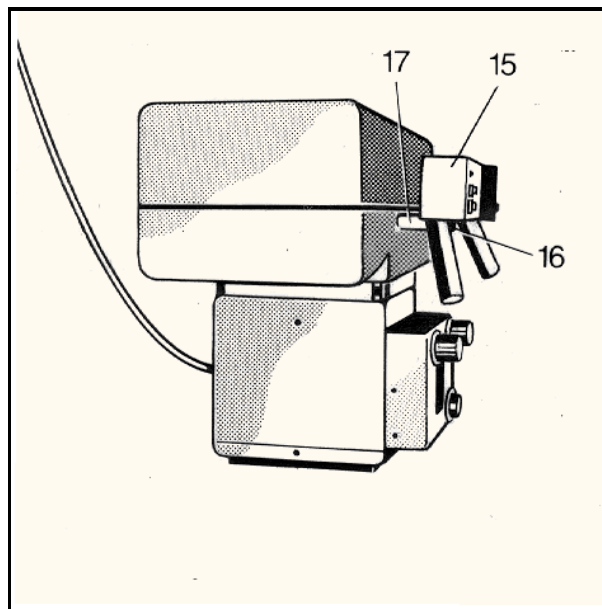

Fig. 7
Fasten control handle (Fig. 7/item 15) to the "Polyphos Single Tank" by means of pacer bushings (item 17) and screws (item 16).